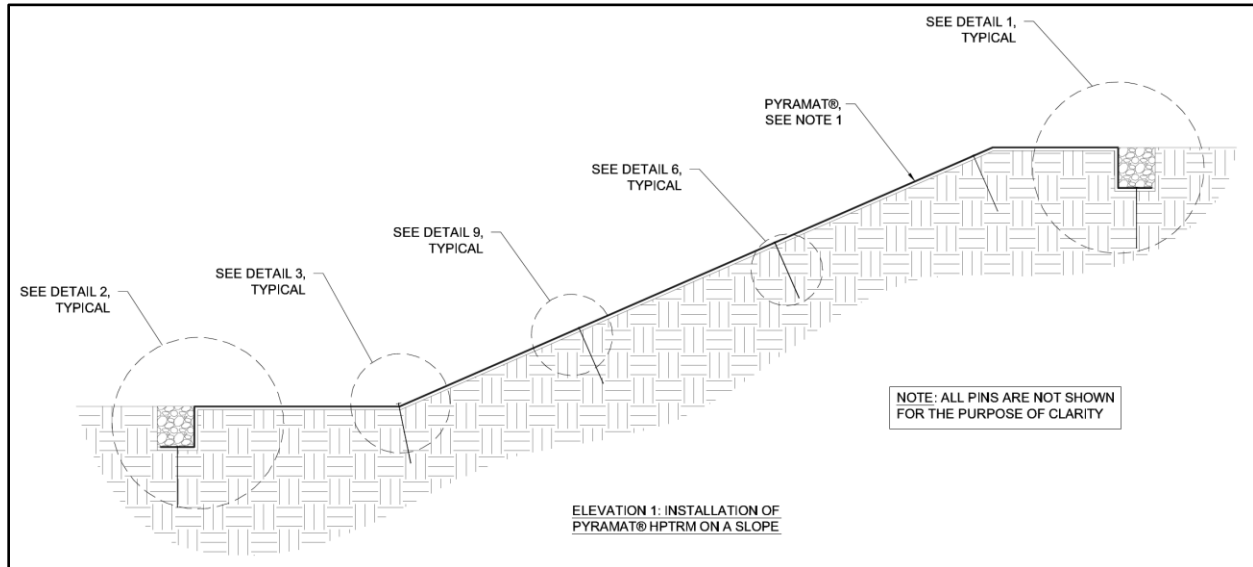

Figure 13: Completed Slope Elevation View
Specific project conditions may warrant further evaluation of installation order for ease. An example elevation view (Figure 13) of a slope armored with PYRAMAT can be seen below for overall reference. Consult Propex Engineering Services at (800) 621-1273 with any questions that you may have.